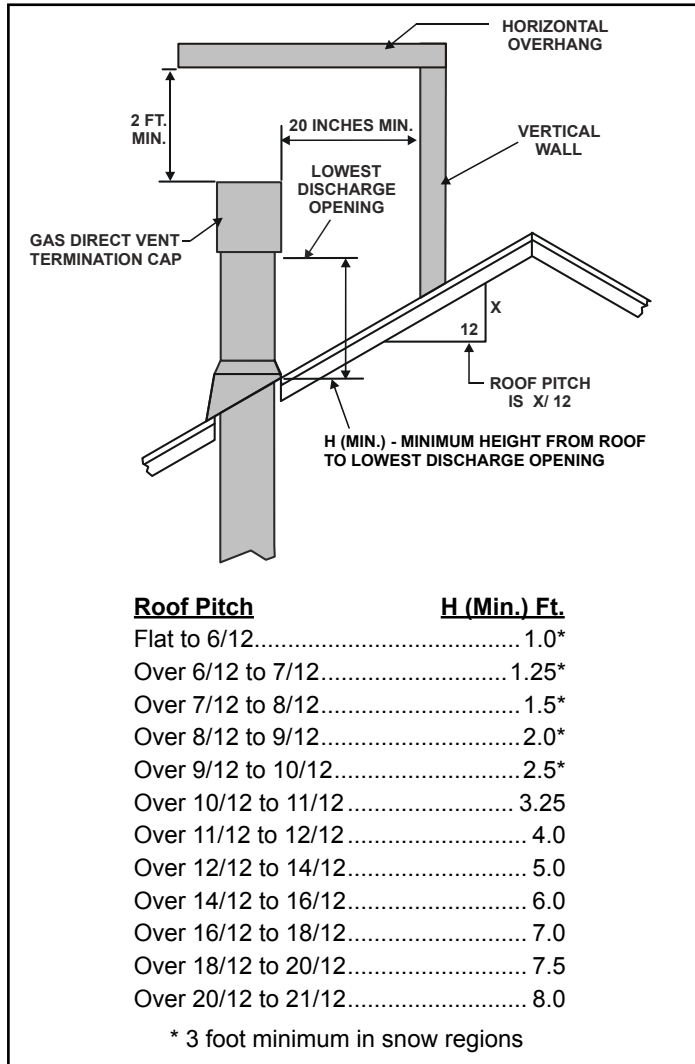

Figure 7.11 Minimum Height From Roof To Lowest Discharge opening
- See minimum vent heights for various pitched roofs (Figure 7.11) to determine the length of pipe to extend through the roof.